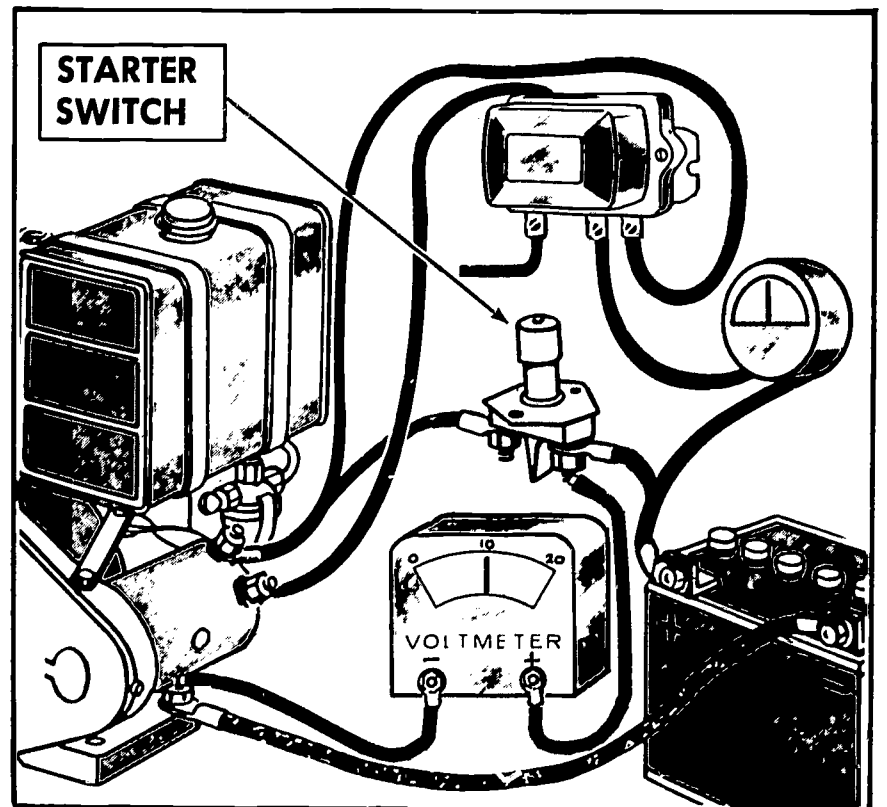

FIGURE 58. Checking the circuit between the battery and the starter switch with a voltmeter.
2. Check the circuit between the battery and the starter switch (Figure 58).